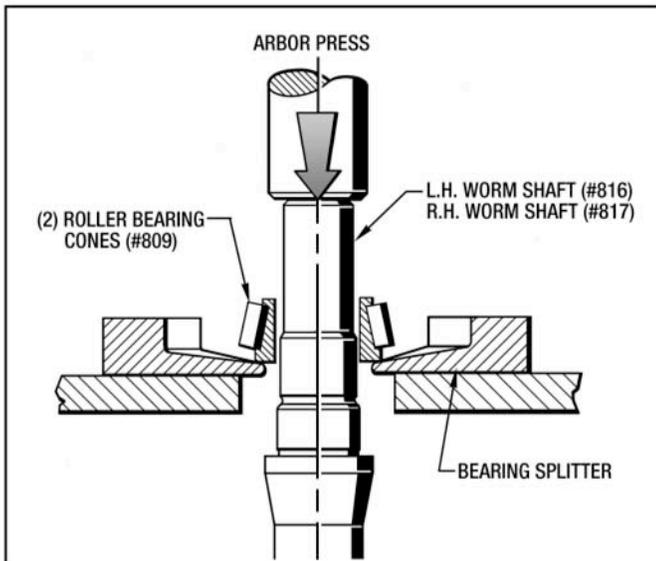

Figure 7.5 - Removing Roller Bearings From Worm Shaft
1. If the Roller Bearing Cones (#809) need to be replaced, they can be removed from the Worm Shaft (#816) or (#817) by a suitable sized Bearing Splitter and Arbor Press as shown in Figure 7.5 on the next page.